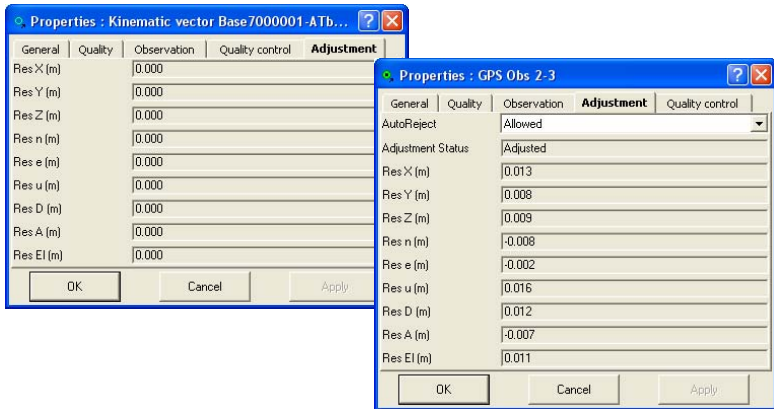

Figure 5-112. Adjustment Properties
5. View or edit *Adjustment* tab fields, which differ depending on the type of observation selected: for static observations, set the *AutoReject* option and view the status and residuals for the observation; for kinematic observations, only residuals information displays. Select the *AutoReject* parameter as needed (Figure 5-112).